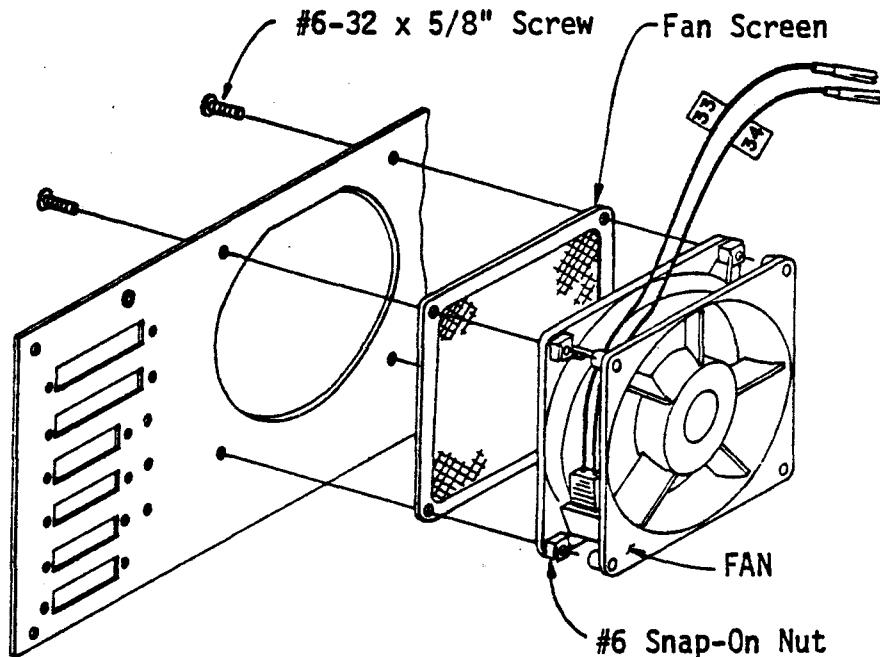

Figure 5-52. Fan and Fan Screen Mounting
## 5-61. FAN MOUNTING (Figure 5-52)
1. Before mounting the fan and fan screen to the back panel, install the female plug onto the terminals as shown in Figure 5-52. If your kit does not supply a plug, solder two 20-inch lengths of 22-18 gauge wire to the terminals.
3. Refer to Figure 5-52. Mount the fan screen and fan to the back panel (with the airflow flowing inward), using four #6-32 x 5/8 inch screws and four #6 "snap-on nuts."